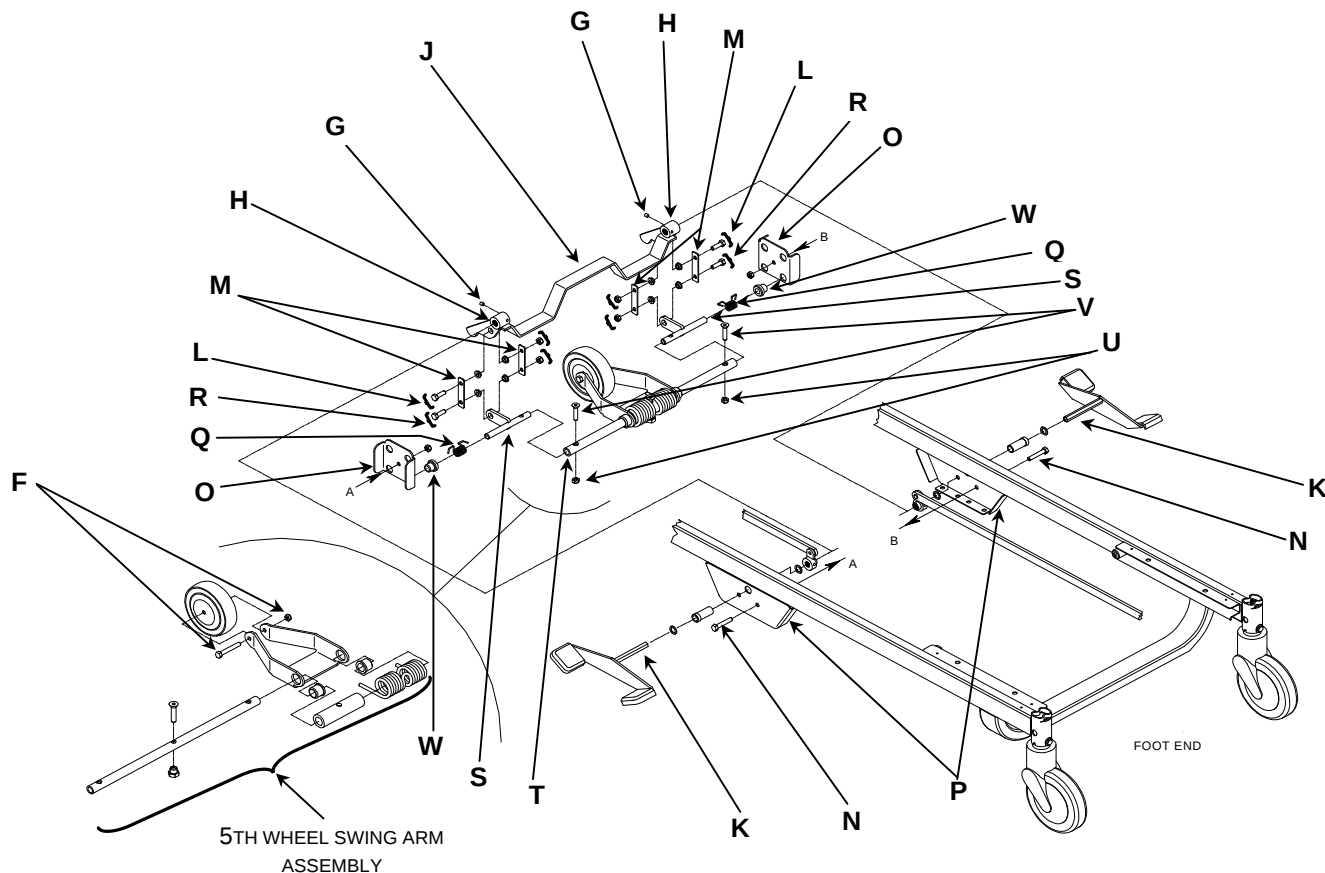

Figure 4.20
3. Remove the pressure screw (G, fig. 4.20, page 55) located on the right or left socket (H, fig. 4.20, page 55) of the 5th wheel activation lever (J, fig. 4.20, page 55).
When inserting the pedal shaft into the sockets, make sure that the locking lever (E) is vertically positioned and that the upper flat part of the 5th wheel activation lever (J, fig. 4.20, page 55) is parallel to the floor (bring the wheel near the floor by exerting a pressure on it to ease this operation).
Unless otherwise stated, all reference points mentioned in the procedures contained in section 4.20 will refer to figure 4.20 below.
5th Wheel Activation Lever (J, fig. 4.20) Replacement